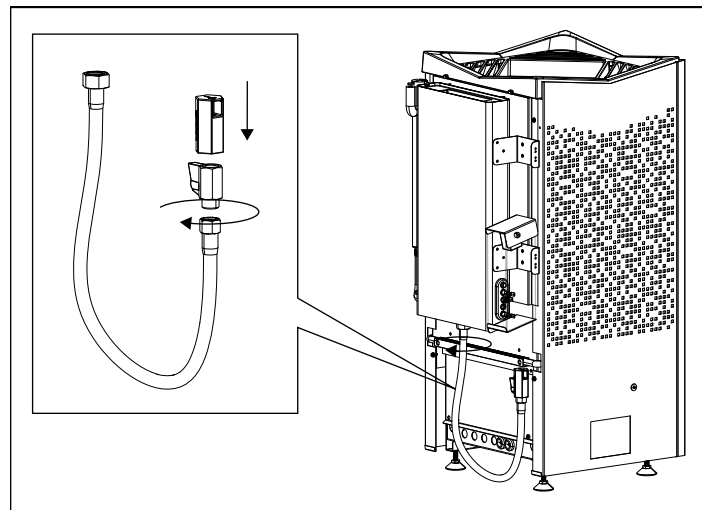

Fig 14: Mounting of the emptying hose
10. Mount the emptying hose, tighten the valve, click in the spout and tighten the hose on the water reservoir (see Figure 14).